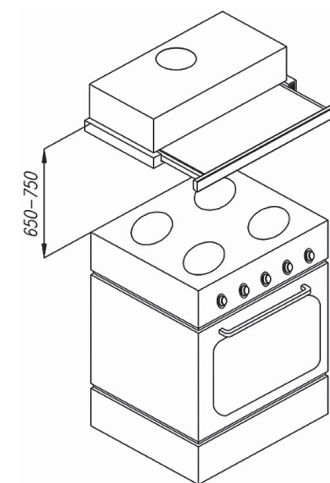

Fig. 3
2. Put the unit on the lower edge of the upper cupboard of the kitchen set. Check the minimum required height according to Fig. 3 (650 mm for electric, and 750 mm for gas hotplates).